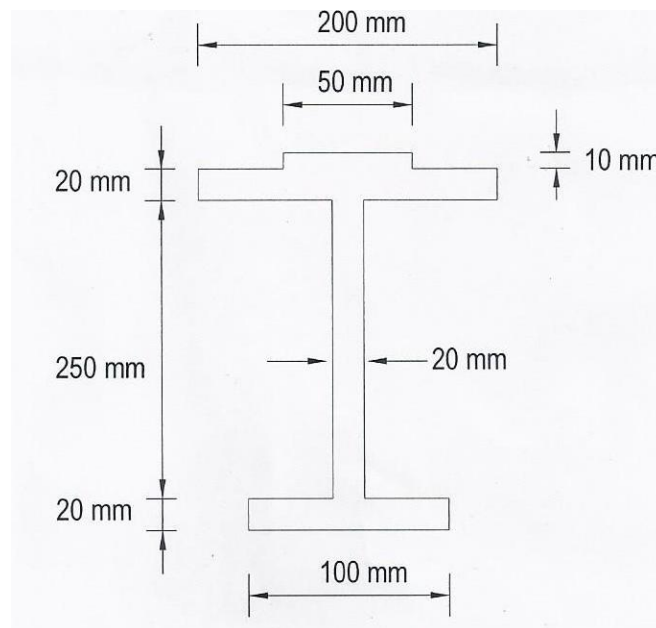

Fig Q3
- a) A moment of 3kNm acting on the beam section in Fig. Q3 causes compression to occur at the top. Determine the maximum tensile and compressive stresses in the beam. .